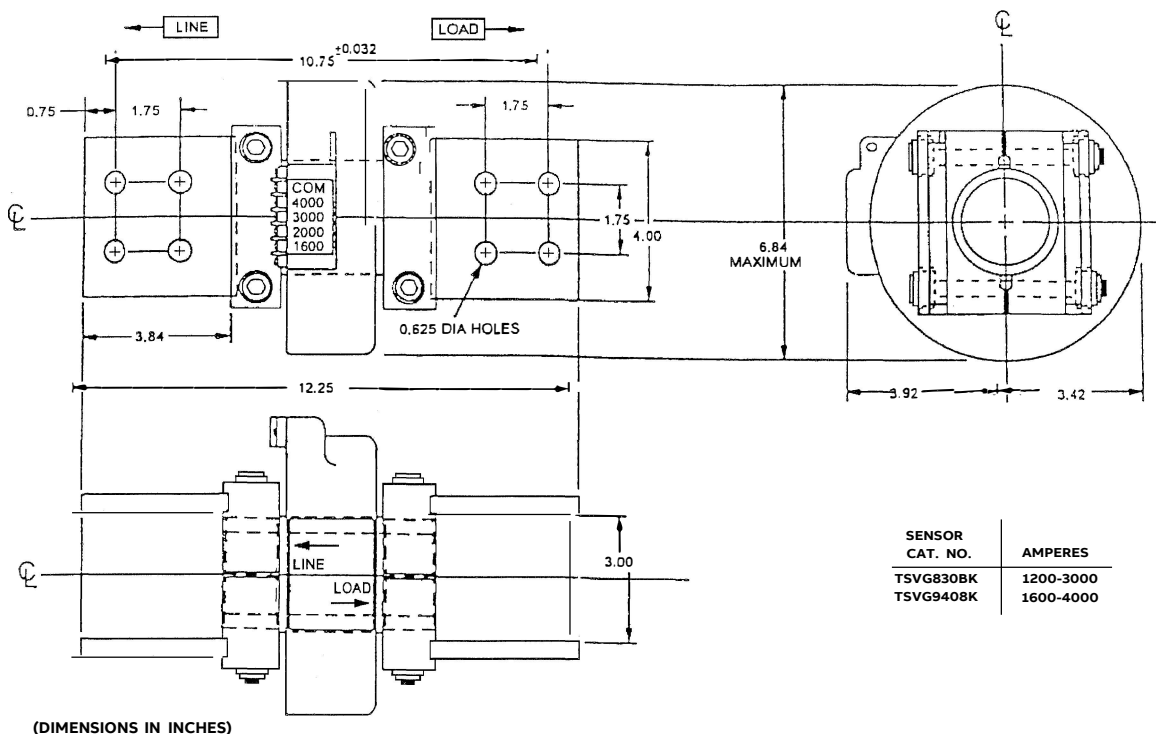

Figure 23. Neutral sensor outline for KD and KE breakers.
1. Mount the neutral sensor on the outgoing neutral lead, normally in the bus or cable compartment in the equipment. Figure 23 shows the sensor outlines for the 3000 A and 4000 A frame sizes.